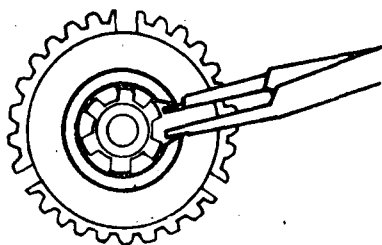

Fig. 6
- b) Hold the shaft in a vice with bronze jaws and remove the retaining clip of the synchronizer (fig. 6).